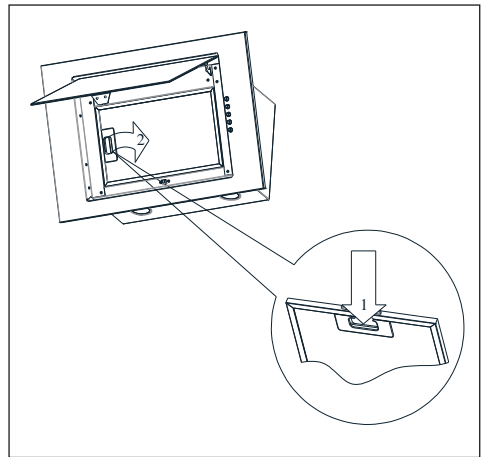

Fig.7 Aluminium fat filter removing
4. Open the hood cover and remove the fat filter (Fig.7).
The hood is equipped with aluminium filter stopping the particles of fat emitted in course of cooking. To remove the filter, move the clamps in the direction of arrows (Fig.7). The filter shall be cleaned manually by its immersion into the water with dish washing liquid for approx. 15 minutes, under the temperature equal to 40-50°C. After 15 minutes, wash and accurately rinse the filter. The filter must be dry before its installation in the hood. It is also possible to wash the filter in the dish washing machines. In course of washing, the filter colour may change, which does not influence its filtering characteristics. The failure to clean the filter regularly reduces the hood performance, and may cause the fire. The filter shall be cleaned at least every 35 hours of hood operation.